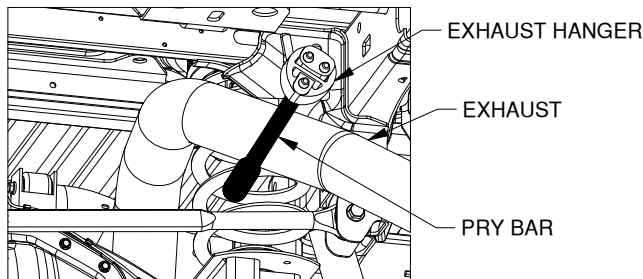

FIGURE A5: looking under truck bed towards cab.
7. **Disconnect the exhaust hanger: (optional, see *secure hitch section step 3*)** Locate the exhaust hanger in the rear passenger portion of the truck, see Figure A5. Disconnect the exhaust from the hanger to provide improved mounting access to the center section. It is recommended that a pry bar be used to aid in disconnecting the exhaust hanger, as shown in Figure A5.